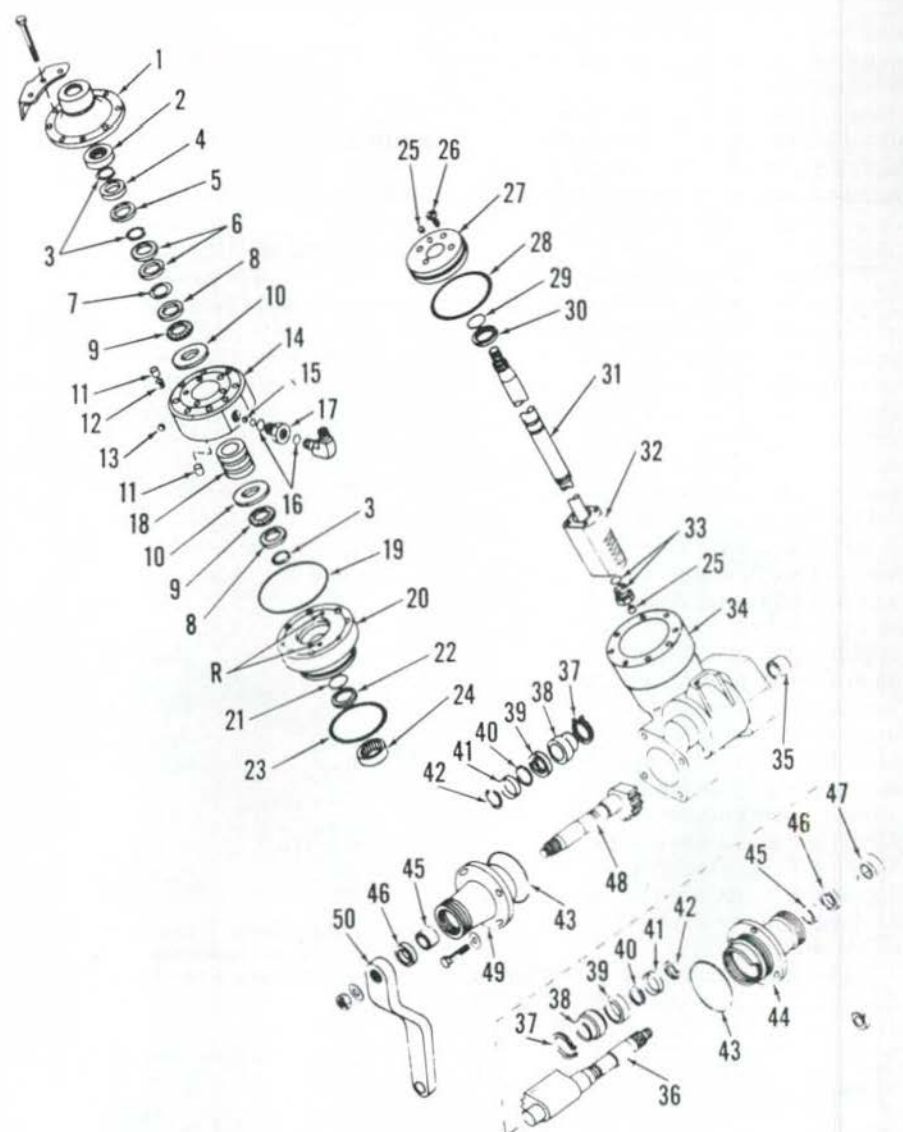

Fig. 12—Exploded view of power steering gear available on all MF230 models, all MF235 models except Orchard and MF245 Vineyard models.
12. OVERHAUL. To overhaul the removed unit, unbolt right side pinion housing (49—Fig. 12) and remove pitman shaft (48), housing (49) and related parts. Turn unit over and drain oil from housing, then unbolt and remove the left pinion housing (44), pitman shaft (36) and related parts. Mark control valve head (1), valve body (14), bearing housing (20) and steering gear housing (34) before disassembly to facilitate correct reassembly. Unbolt and remove control valve housing, head, bearing housing, steering shaft and rack unit. Unscrew piston (27) and rack (32) as a unit from shaft (31), then remove bearing housing (20).
To disassemble control valve and steering shaft, use caution and carefully identify parts as they are removed. Some parts used may be slightly different than shown in Fig. 12. Remove top snap ring (3), washer (4) and seal (5). Remove second snap ring (3) and lift parts (6,7,8,9 and 10) from shaft. Remove valve body (14) from valve spool (18). Be careful not to lose or damage parts of plungers (11). Remove return fitting and adapter (17), being careful not to lose check ball (15).
Inspect all parts for wear or damage and renew if necessary. Install new seal (2—Fig. 12) in head (1) with lip of seal towards valve body and end of seal flush with edge of housing bore. Press new bushings (35 and 45) into housings until flush to 0.8 mm (1/32 inch) below flush with outer edge of bore. Lips of seals (46) should face inward. Some models use a washer and snap ring to retain seals (46) in housings. When renewing "O" rings (21 and 29) and seals (22 and 30) in bearing housing, be sure "O" rings are installed under the seal rings.
to place. Install washer (4—Fig. 12) with chamfer down over snap ring. Install top snap ring (3). Remove piston and rack from shaft.
Assemble parts (37, 38, 39, 40, 41 and 42—Fig. 12) onto pitman shafts before installing shafts into pinion housing. Adjust thickness of shims (40) as necessary to remove all end play from bearing (39).
Adjust gear backlash as follows: Rotate the right pinion housing (49—Fig. 12)